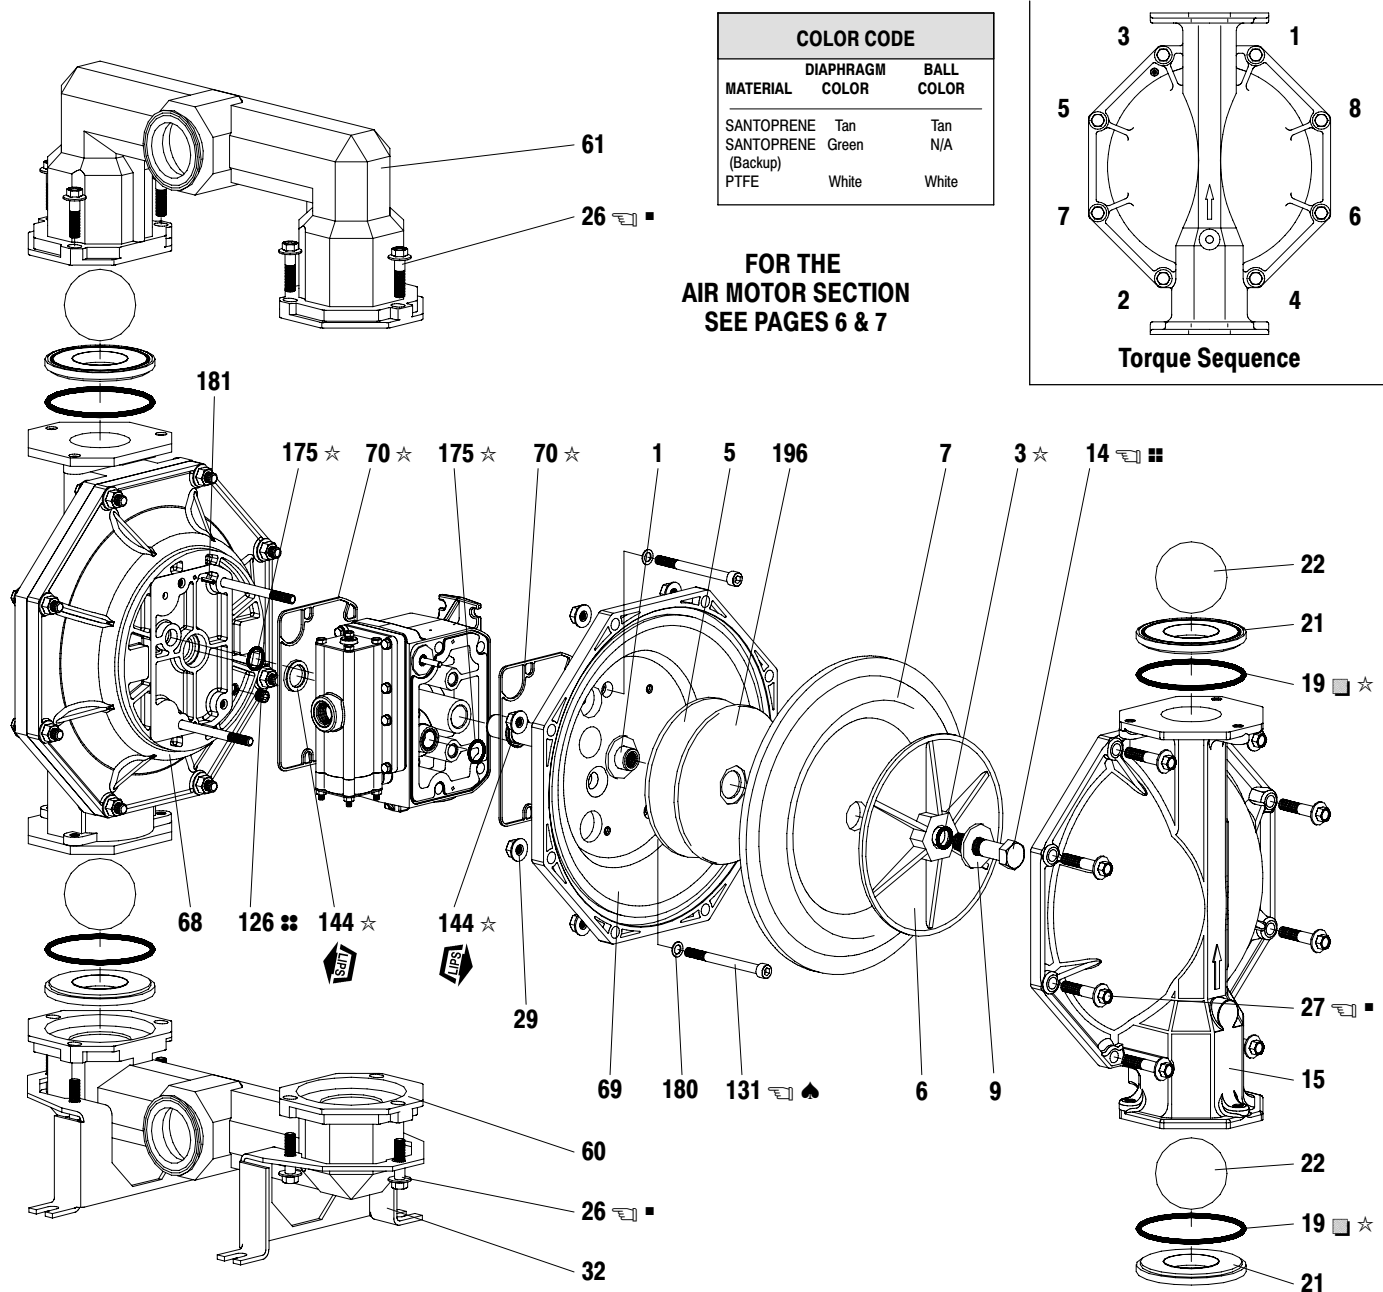

Figure 2
2. Remove (22) balls, (19) “O” rings (where applicable) and (21) seats.
3. Remove (15) fluid caps.
NOTE: Only PTFE diaphragm models use a primary (7) diaphragm and a backup (8) diaphragm. Refer to the auxiliary view in figure 2.
4. Remove the (6) diaphragm washer, (7) or (7 / 8) diaphragms, (5) backup washer and (196) cushion.